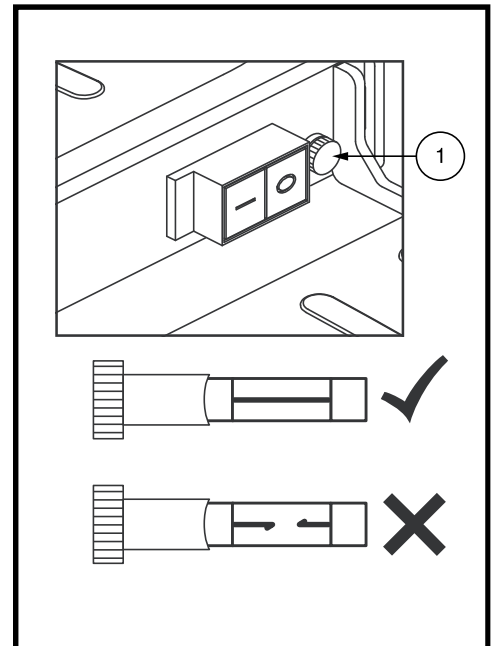

Figure 18. Fuse Replacement
2. Examine the fuse in the fuse holder. **See figure 18.** If the fuse is blown, it needs to be replaced.